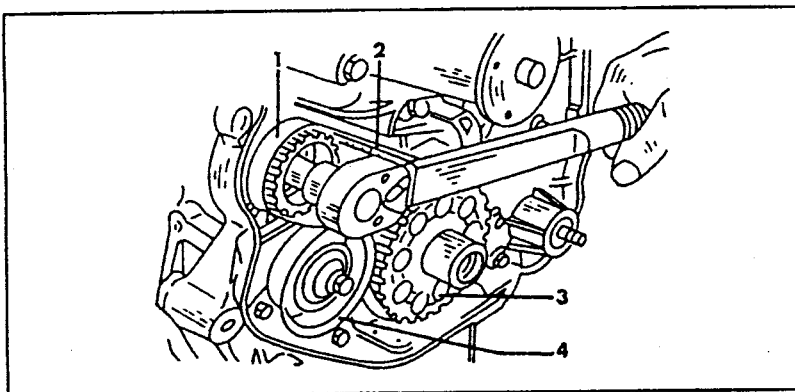

Fig. 1.10. — Removal of the lower timing belt together with the associated parts.
- Slacken the bolt securing the balance shaft timing gearwheel until it can be removed by hand. Remove the belt tensioner and the second timing belt (Fig. 1.10). If there is a possibility to re-use the belt, mark the running direction of the belt into the outside (felt pen).